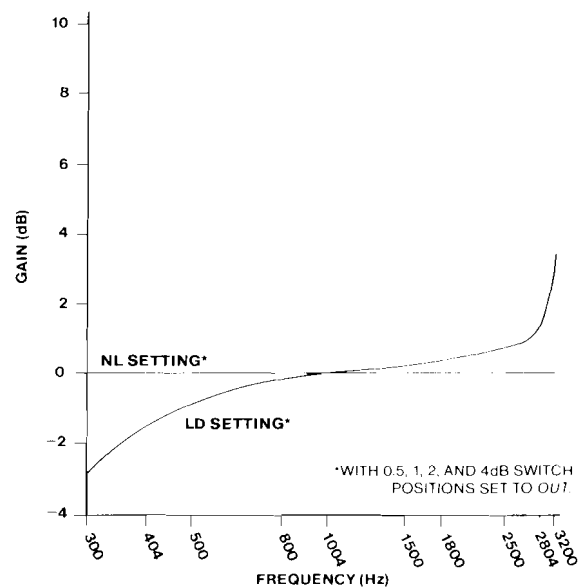

figure 7. Typical compromise bump equalization response curves
2.09 The second mode of receive-channel equalization available on the 6048/A is compromise bump-type equalization for loaded cable. The bump equalizer inserts a 3dB bump at 3200Hz (re 1004Hz) and provides 1.5dB of roll-off at 404Hz (re 1004Hz). Typical frequency response of the compromise bump equalizer is shown in graphic form in figure 7 and in tabular form in table 2.